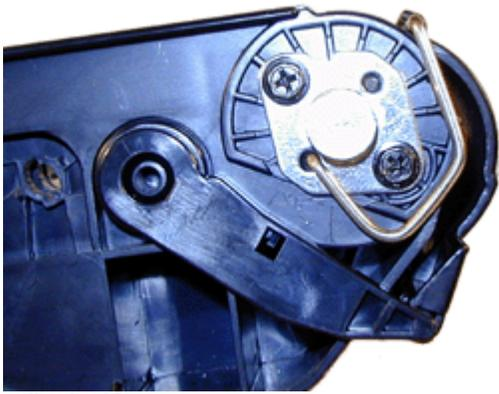

FIGURE 19
15. Install the drum cover hinge and metal bar into both drum axle pins. Make sure that the hinge arm tab locks into place. See Figure 19